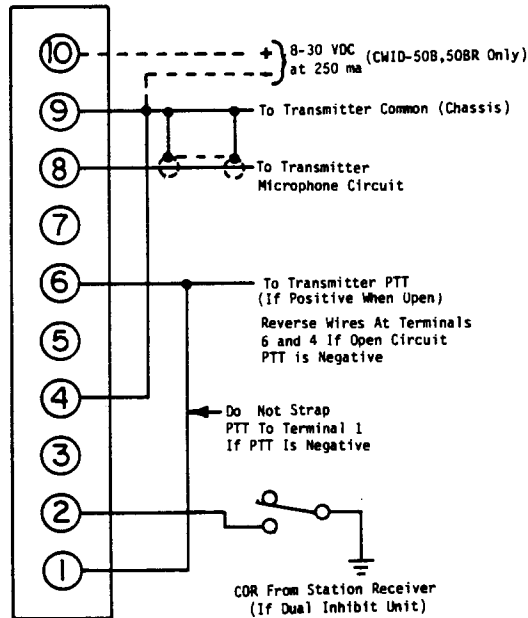
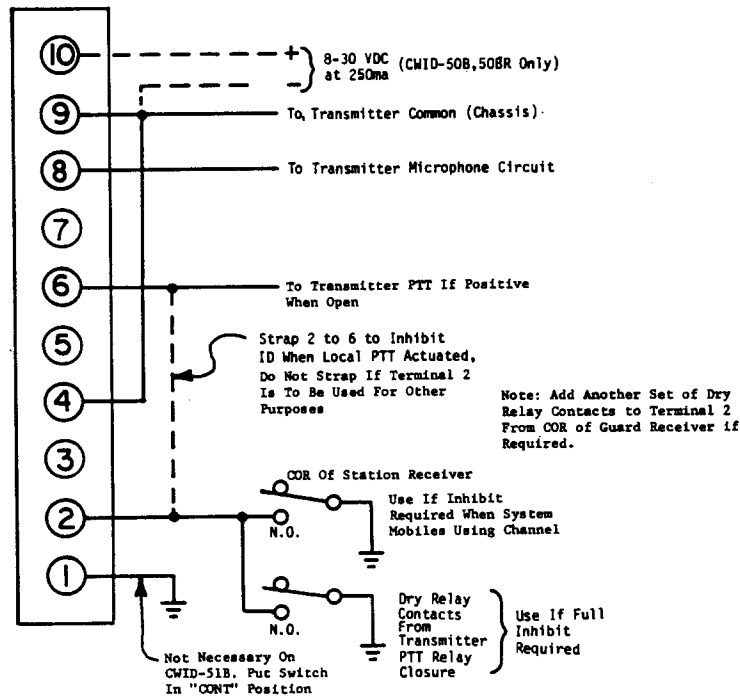
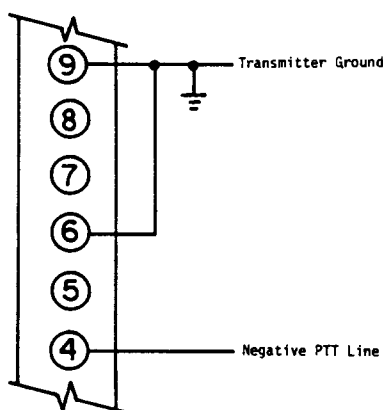
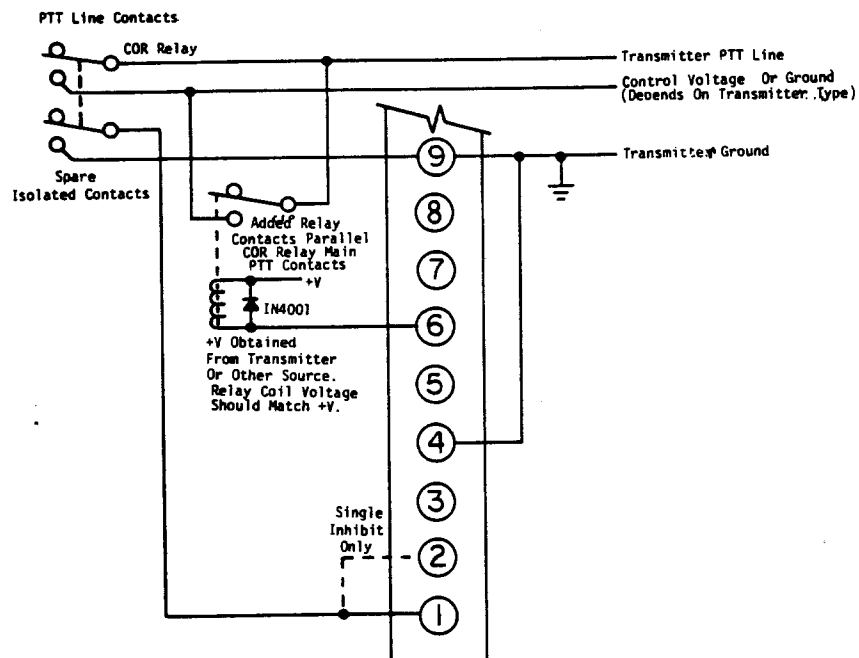

Figure 2.
Figure 3.
Figure 5
Figure 16
- a. If the COR mode of operation or the inhibit feature is desired it is necessary to activate Terminals 1 and/or 2 to provide logic for triggering or inhibit as may be required. If the continuous mode is desired (see Figure 3) without inhibit it is not necessary to activate Terminals 1 or 2. (In the continuous mode the identifier is internally triggered every interval period.
To inhibit the ID sequence during normal voice operation Terminal 1 must be grounded while the PTT is activated. This may be done by (A) a set of dry contacts of a relay driven by the PTT (see figure 16) or (B) Terminal 1 and Terminal 6 may be tied together in systems where the open PTT voltage is positive (see Figure 3).
- c. IF BASE STATION and dual inhibit model in use connect the COR or COS to Terminal 2 so that Terminal 2 is grounded when the station receiver is unsequelched (channel active) (see Figure 2).
2. Control Inputs. A separate pair of wires should be routed from each set of controlling contacts as applicable. The neutral wire of each pair should be grounded at Terminal 9 and the hot wire should be connected to the appropriate Terminal (1, 2, or 3). Shielded wire is recommended to minimize potential RF interference problems. If the COR or PTT microphone contacts are not isolated and the transmitter PTT line is positive the trigger input on Terminal 1 may be connected to the PTT line as shown in Figure 2. Negative PTT lines must have an isolated set of contacts to activate the CWID Terminal 1 to avoid application of out-of-specification voltages to the CWID inputs (see Figures 16 and 17).
If the open PTT line is a negative voltage, connect the PTT line to Terminal 4 and jumper Terminals 9 and 6 as in Figure 5. Terminal 9 should be connected to transmitter ground. See Figure 16 for triggering the identifier when using negative push-to-talk line.
Figure 16 may be used as a guide when it is necessary to isolate the transmitter PTT line from the output driver of the identifier unit. The 12 VDC relay should not have a coil current greater than 250 ma. The normally open contacts of the relay may be run to the transmitter PTT line, or may be used to actuate any other device.